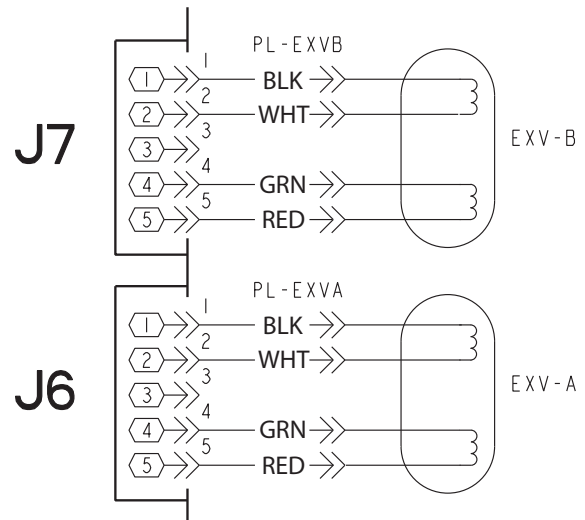

Fig. 41 — 30RAP010-060 EXV Cable Connections to EXV Module
Check the EXV output signals at appropriate terminals on the EXV board (see Fig. 41 or 42). Do not disconnect EXV connector with power applied to the board. Damage to the board may result if disconnected while under power. Connect positive test lead to EXV-J6 terminal 3 for Circuit A, EXV-J7 terminal 3 for Circuit B. Set meter to approximately 20 vdc. Using the Service Test procedure above, move the valve output under test to 100%. DO NOT short meter leads together or pin 3 to any other pin as board damage will occur.
2. Disconnect the EXV cable from the EXV. For sizes 010-060, refer to Fig. 41 and remove the EXV retainer clip, taking care not to damage the clip as it will be required for installation later.